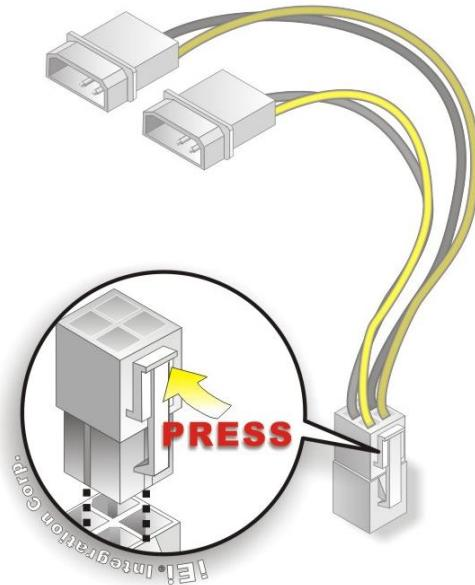

Figure 4-3: Power Cable to Motherboard Connection
Step 2: Connect the power cable to the motherboard. Connect the 4-pin (2x2) Molex type power cable connector to the power connector on the motherboard. See Figure 4-3